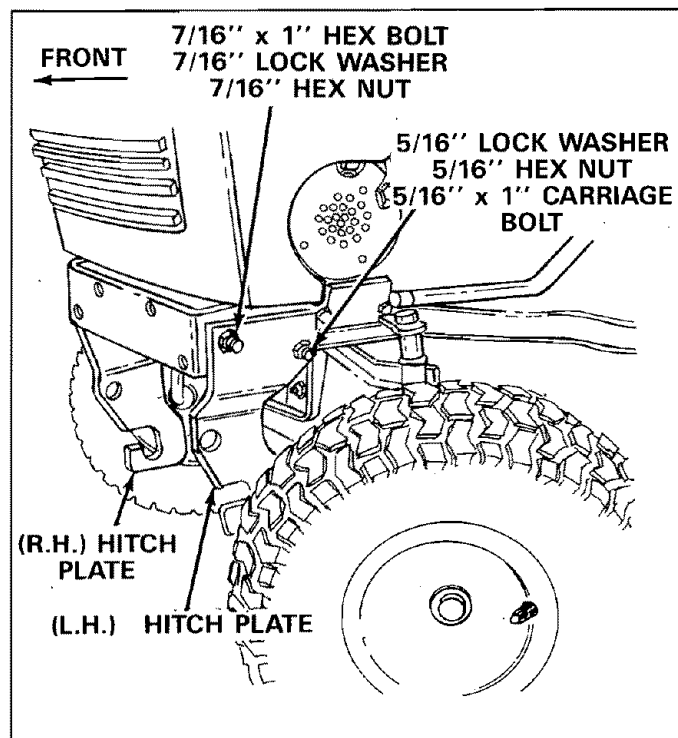

FIGURE 6
2. Assemble right and left hand hitch plates to outside of hitch plate bracket with offset as shown in figure 6, using 5/16-18 x 1" carriage bolt and 7/16" x 1" hex bolt on each side; tighten securely with lock washers and hex nuts. See figure 6.
Offset on hitch plates must be toward inside as shown in figure 6.